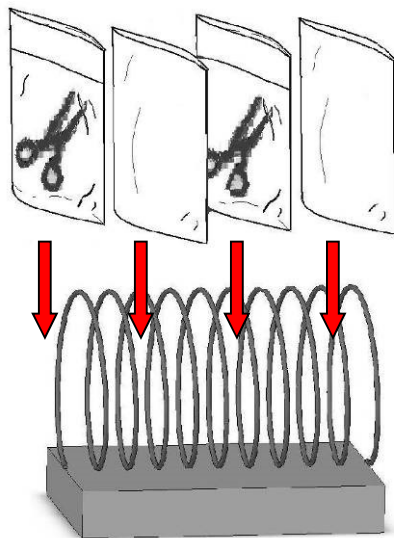
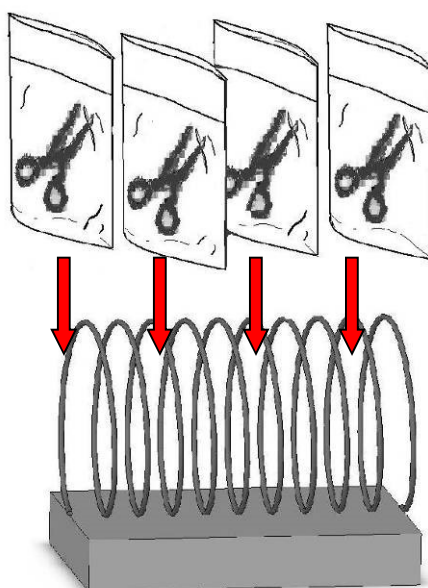

Figure 37
Figure 38
**⚠ WARNING:** Recommend the use of pouch holder for objects placed in sterilization bags in order to ensure sterilization results. Place each bag individually according to Figure 37 or Figure 38. The pouch holder can be provided as an optional accessory.